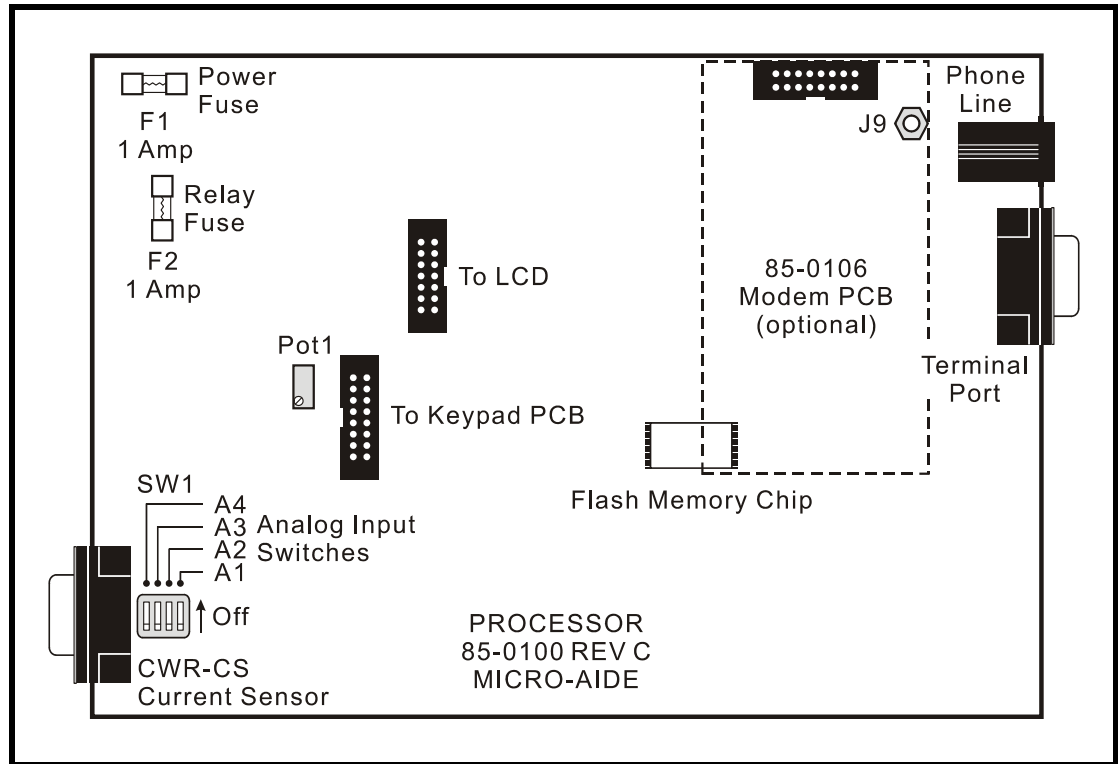

Figure 6 - CWR-22XL Processor PCB
The contrast level of the LCD panel may occasionally need to be adjusted to compensate for extreme variations in ambient temperature. To adjust the contrast level simply adjust the potentiometer labeled “Pot1” in Figure 6 on page 75.
There is a single DIP switch assembly mounted on the Processor PCB. It is referred to as the Analog Input Switch and is labeled “SW1”. The DIP switch assembly contains four switches. Labeling on the body of the switch assembly indicates the on and off positions for each switch. Refer to Figure 6 on page 75 to locate the described switch.
2. Locate the sixteen-pin male connector labeled "J9 MODEM" near the upper right-hand corner of the Processor PCB. The modem connector is illustrated in Figure 6 on page 75. Temporarily remove the 6-32 1/4" screw and lock washer secured to the hex stand-off located near the modem connector.